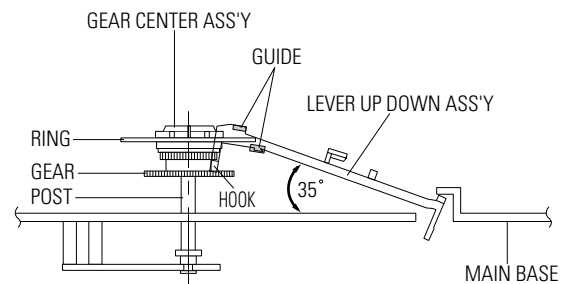

Fig. 3-29 Lever Up Down Ass'y Removal
- 1) Insert the Lever Up Down Ass'y ❶ in the rectangular holes on Main Base as shown in Fig 3-29.
- 2) Lift the Lever Up Down Ass'y ❶ about 35 degree.(Refer to Fig 3-29)
- 3) Insert Ring of the Gear Center Ass'y ❷ in the Guide of the Lever Up Down Ass'y ❶.
- 4) Insert the Gear Center Ass'y ❷ in the post on Main Base.
- 5) Push down the Lever Up Down Ass'y ❶ for locking of the Hook.